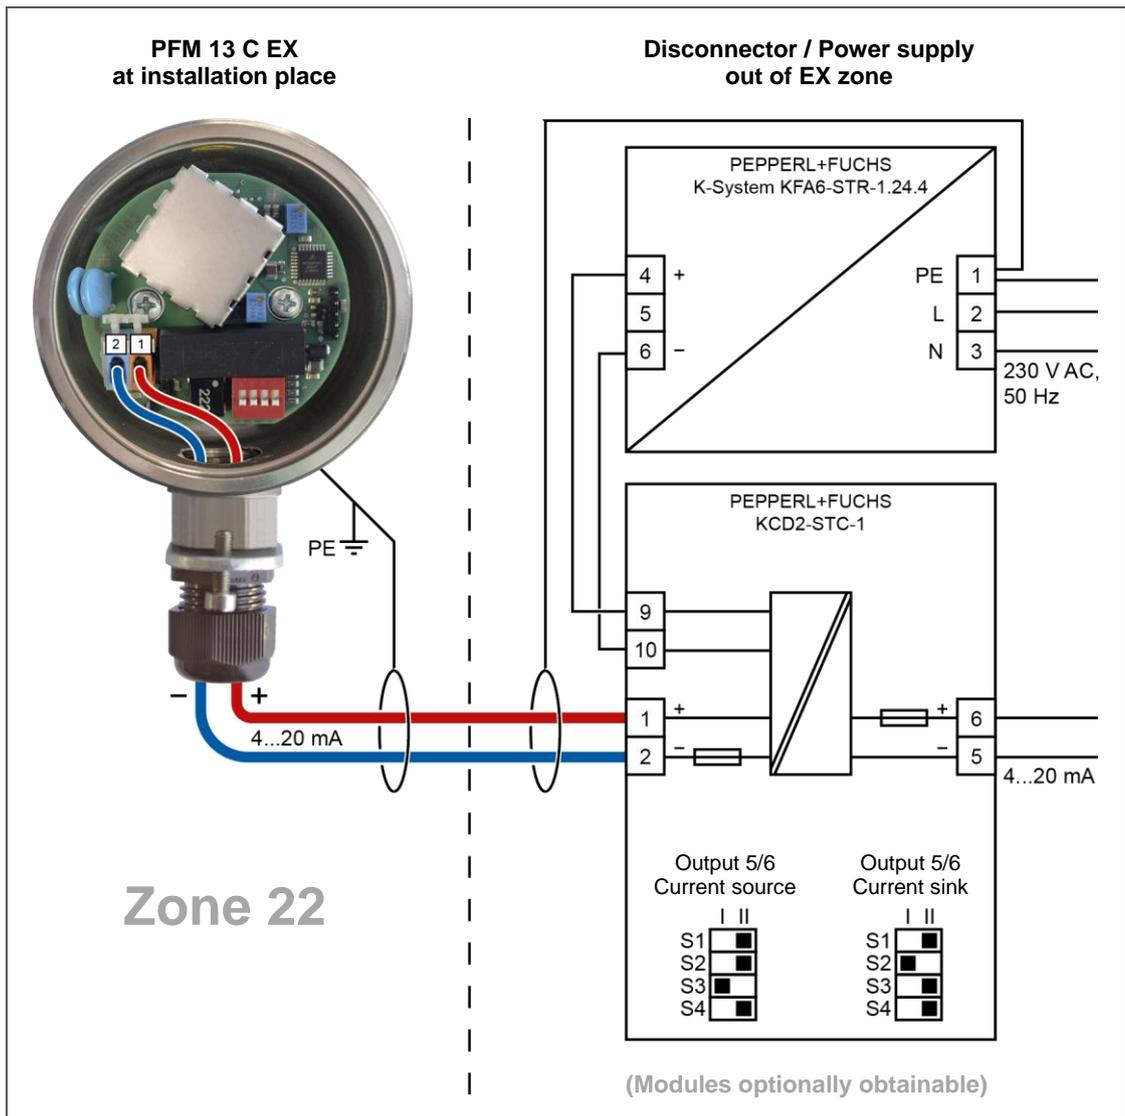

Fig. 10: Electrical connection
3. Lead the cable through the cable gland into the device (see Fig. 10, page 25).